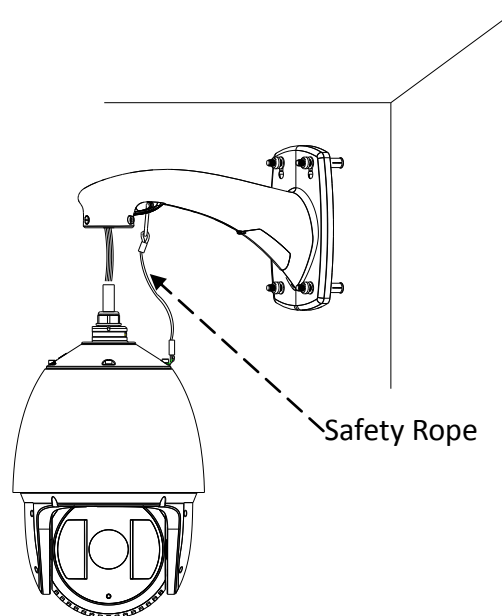

Figure 1-6 Install the Speed Dome
- 1) Hang the safety rope to the speed dome and the hook on the mount as shown in Figure 1-6.